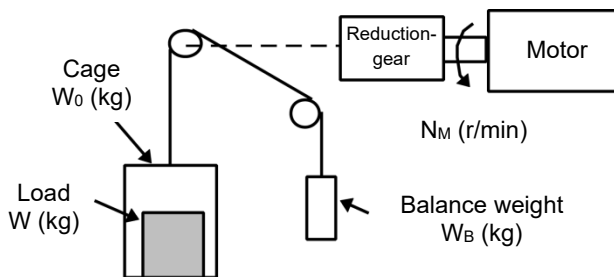
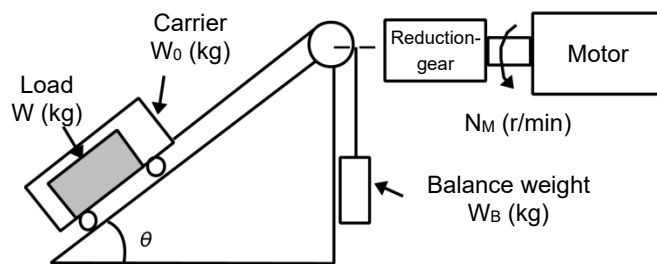

Figure 10.3-2 Vertical lift load
Figure 10.3-3 Inclined lift load
A simplified mechanical configuration is assumed as shown in Figure 10.3-2. If the mass of the cage is W_0 (kg), the mass of the load is W (kg), and the mass of the balance weight is W_B (kg), then the forces F (N) required for lifting the load up and down are expressed as follows (Equation 10.3-5 and Equation 10.3-6).
Although the mechanical configuration of an inclined lift load is similar to that of a vertical lift load, non-negligible friction force in the inclined lift makes a difference; in an inclined lift load, there is a slight difference between the expression to calculate the lift force F (N) for lifting and that for lowering. If the incline angle is θ , and the friction coefficient is μ , as shown in Figure 10.3-3, the required driving force F (N) is expressed as follows:
The moment of inertia J ($\text{kg} \cdot \text{m}^2$) of the loads connected with a rope shown in Figure 10.3-2 and Figure 10.3-3 is calculated with the following equation (Equation 10.3-14) using the masses of the moving objects, although the motion directions of those loads are different.